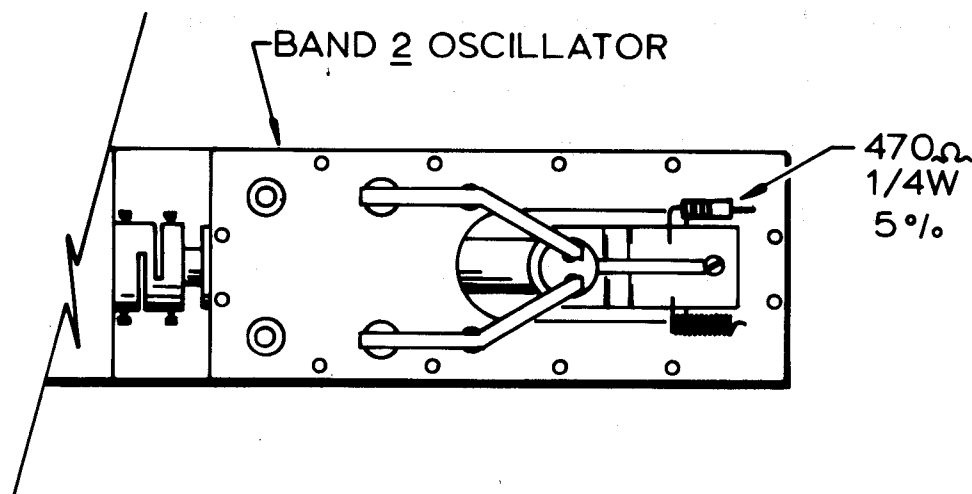

FIG. 3
- () 4. Replace the 0.27 pF capacitor, located between the cathode of the Band 2 Oscillator tube and ground, with a 470Ω 1/4W 5% resistor from the kit. See Fig. 3.